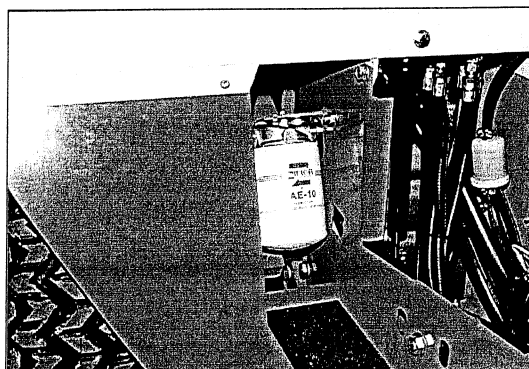

Figure 41
2) A 10-micron (pressure) filter located behind the right foot of the operator on the rear frame of the tractor (**Figure 41**). Part # 21.078